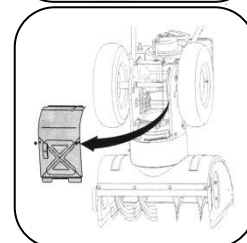

Figure 18
2. Carefully pivot the snow thrower up and forward so that it rests on the auger housing. Remove the frame cover from the underside of the snow thrower by removing four self-tapping screws which secure it. See Figure 18.